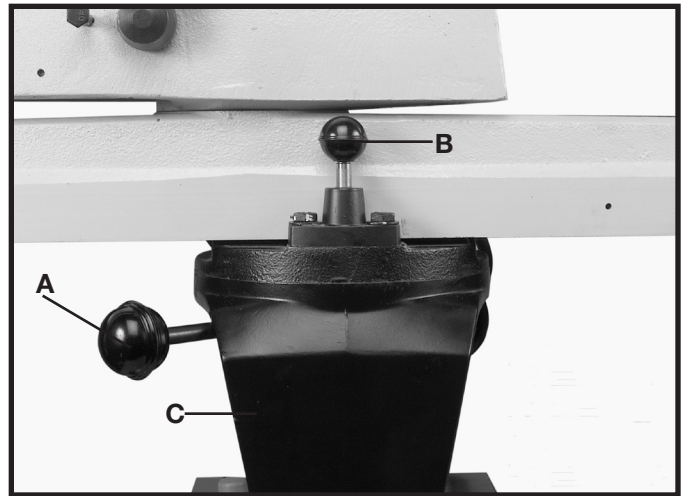
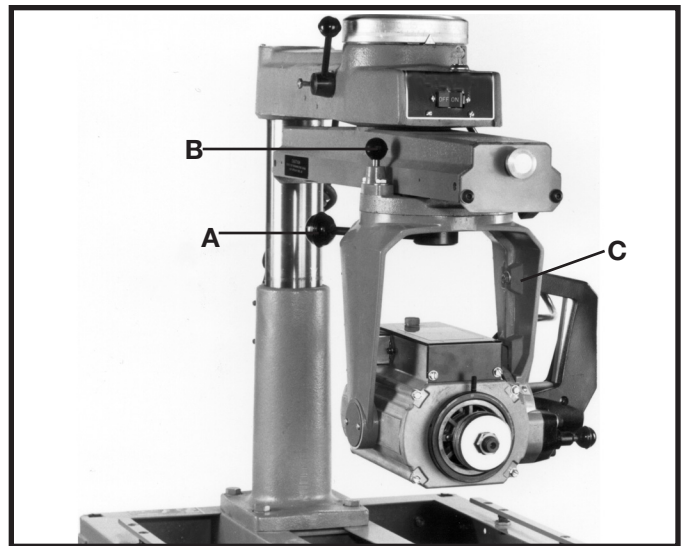

Fig. 16
Fig. 17
1. Loosen yoke clamp locking lever (A) Fig. 16, pull up yoke clamp index knob (B) and rotate yoke (C) to the out rip position shown in Fig. 17. Tighten yoke clamp locking lever (A).